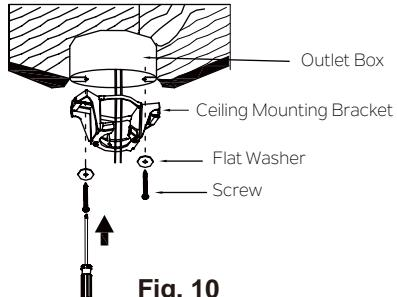

Fig. 10
Step 1. Before attaching fan to outlet box (not included), ensure the outlet box is securely fastened to at least two points to a structural ceiling member (a loose box will cause the fan to wobble). Pass the 120 volt supply wires from the ceiling outlet box through the center of the ceiling mounting bracket. Install mounting bracket to outlet box in ceiling using the screws and washers included with the outlet box. (Fig.10)